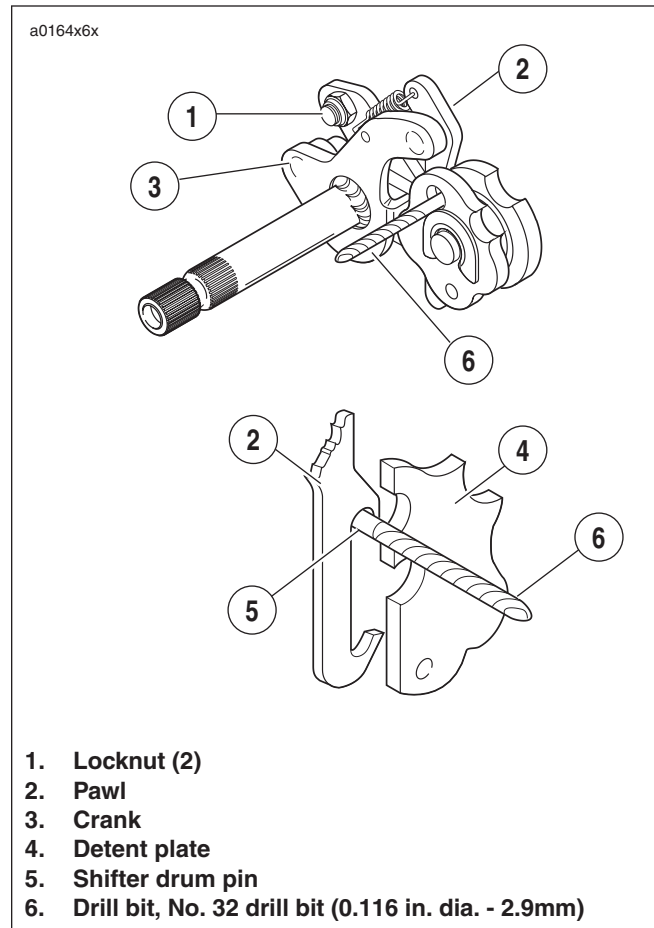

Figure 6-55. Shifter Shaft Assembly Alignment
5. See Figure 6-55. Align shifter shaft.
- b. Place a No. 32 drill bit (0.116 in. dia.) through hole in detent plate (4), and between pawl (2) and drive pin at end of shifter drum shaft.
- c. Push down top of crank (3) to remove all clearance between pawl and drill bit; this will correctly align pawl to shift drum pins (do not push down with too great a force, as this might cause the shifter drum to rotate).
- d. With bit in place, tighten shifter shaft assembly bottom locknut (1) first to 90-110 **in-lbs** (10-12 Nm). Then, tighten shifter shaft assembly top locknut (1) to the same torque.